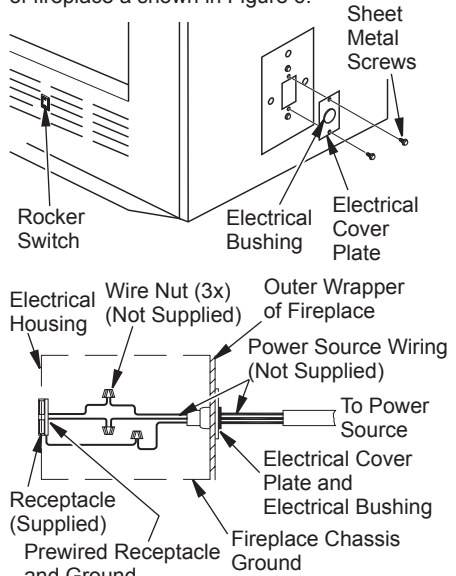

Figure 6 - Fan Switch-Electrical Bushing
Fan or blower kit is optional with this fireplace (for circulating models only). Use of blowers or fans other than those manufactured by DESA Heating, LLC voids warranty. Fan is operated by pressing rocker switch (see Figure 6) in lower right hand corner of fireplace face. Blower is operated by turning control knob (not shown).
Fan/blower kit electrical connections are made through electrical cover plate on side of fireplace as shown in Figure 6.
1. Remove electrical cover plate with bushing from fireplace by removing 2 sheet metal screws as shown in Figure 6.
3. Slide all wiring connections in electrical housing as shown in Figure 6.